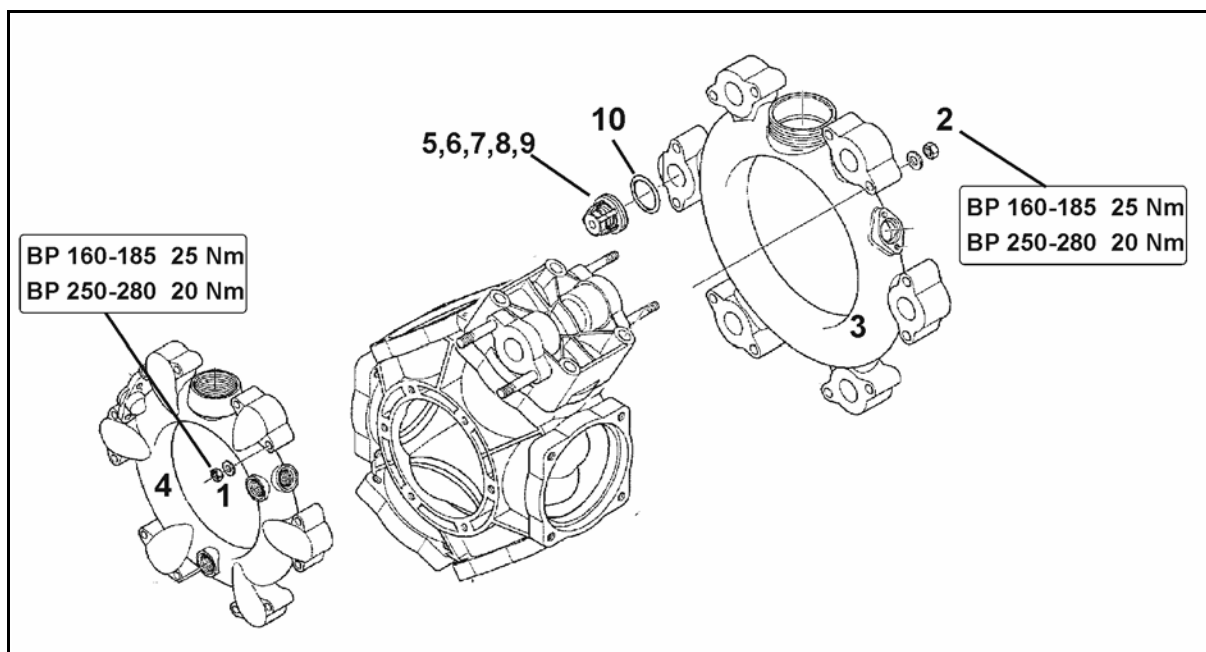

Fig. 184
1. Check whether the oil level is visible at the mark (Fig. 184/1) with the pump not running and standing on a flat surface.
2. If the oil level is not visible at the mark (Fig. 184/1), remove the lid (Fig. 184/2) and top up with oil.
2. Remove the lid (Fig. 184/2).
5. Turn the drive shaft left and right alternately and slowly fill with new oil. The right quantity of oil has been reached when the oil is visible at the mark (Fig. 184/1).
- Pay attention to the respective installation positions of the valves on the suction and pressure sides before removing the valve groups (Fig. 184/5).
- When reassembling, ensure that the valve guide (Fig. 184/9) is not damaged. Damage may cause the valves to jam.
- Always tighten the nuts (Fig. 184/1,2) in a crosswise fashion using the specified torque. Improper tightening of the screws causes warping, which results in leaks.
2. Remove the nuts (Fig. 184/1,2).
3. Remove the suction and pressure port (Fig. 184/3 and Fig. 184/4).
4. Remove the valve groups (Fig. 184/5).
5. Check the valve seat (Fig. 184/6), valve (Fig. 184/7), valve spring (Fig. 184/8) and valve guide (Fig. 184/9) for wear or damage.
6. Remove the O-ring (Fig. 184/10).
8. After testing and cleaning, fit the valve groups (Fig. 184/5).
9. Insert new O-rings (Fig. 184/10).
10. Mount the suction (Fig. 184/3) and pressure port (Fig. 184/4) on the pump housing.
11. Tighten the nuts (Fig. 184/1,2) in a crosswise fashion using a torque of **25 Nm (BP 160-185) / 20 Nm (AR 250-280)**